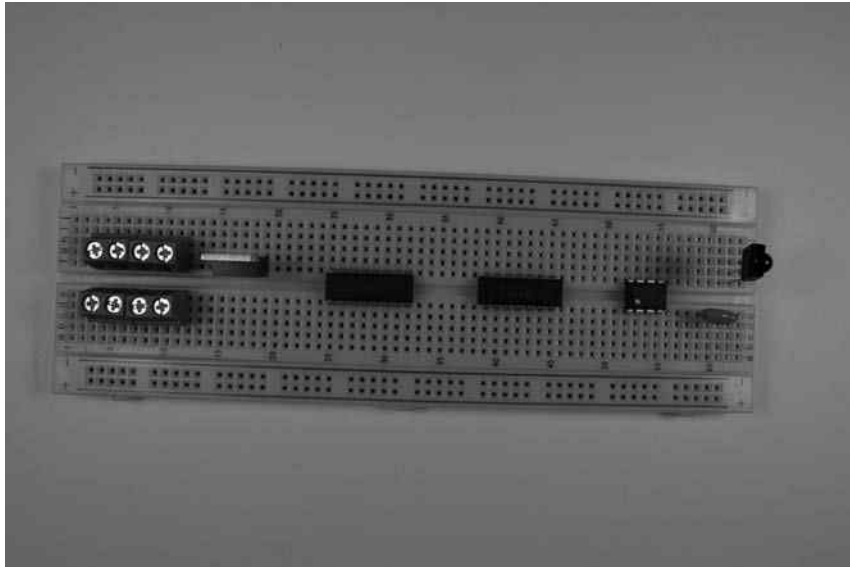

Figure 11-26:
3. Insert four terminal blocks a few rows in from the end of the breadboard, as shown in Figure 11-26.